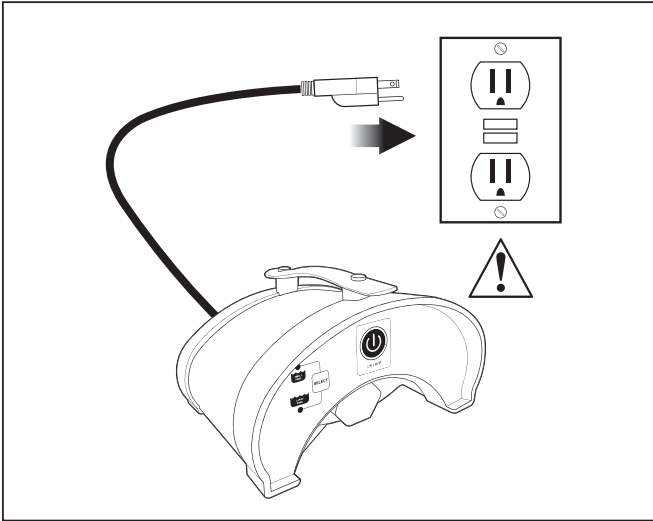

Figure 1. Plug into Power Supply
1. Plug power supply into a GFCI outlet (Ground Fault Circuit Interrupter) (Figure 1). Power Supply must be 5 ft. from the pool's edge.